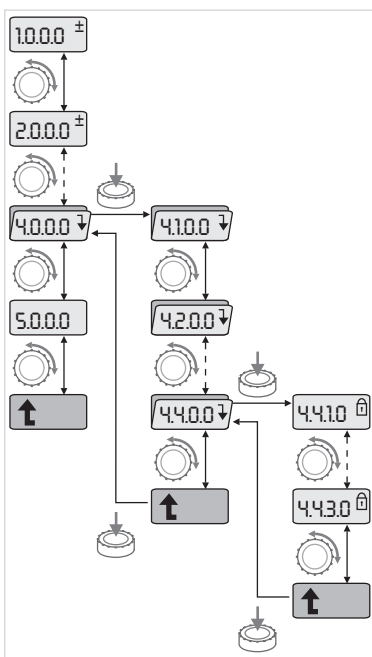

Fig. 31: Navigation example
- Carry out general menu navigation as follows (for an example, see Fig. 31):